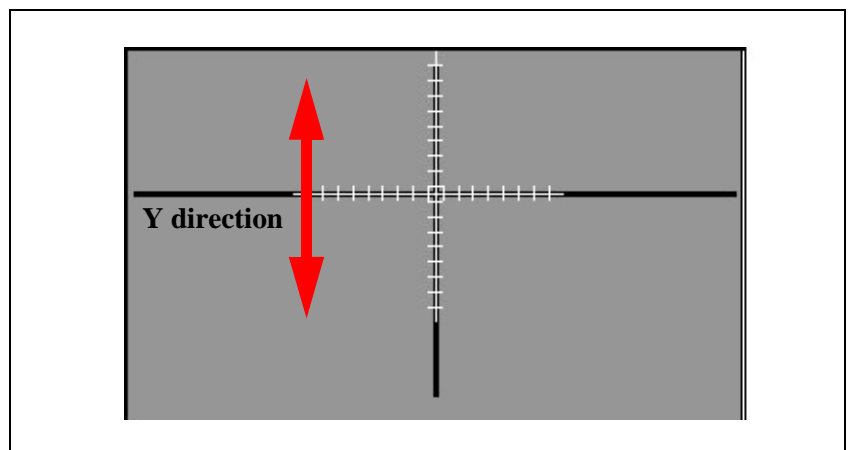

Figure 13-5. Center the crosshairs.
4. The image shown on the screen represents the camera's crosshairs on top of the reference magazine's center line (see Figure 13-5).